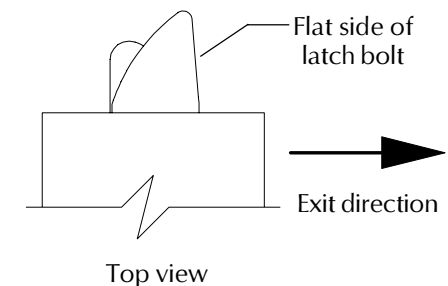

Figure 4
8. Rotate latch bolt so flat side faces exit direction. (Figure 4).